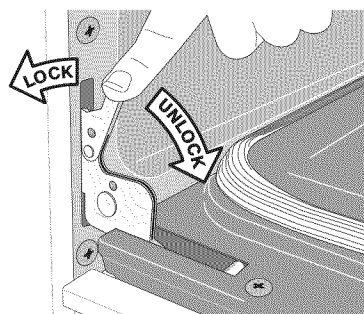

Figure 50: Hinge lock/unlock positions
2. Pull the door hinge locks on both left and right door hinges down from the oven frame completely towards the oven door (Figure 50). A tool such as a small flat-blade screwdriver may be required.
4. Push the door hinge locks up towards and into the oven frame on both left and right oven door hinges (Figure 50) to the locked position; then, close the oven door.